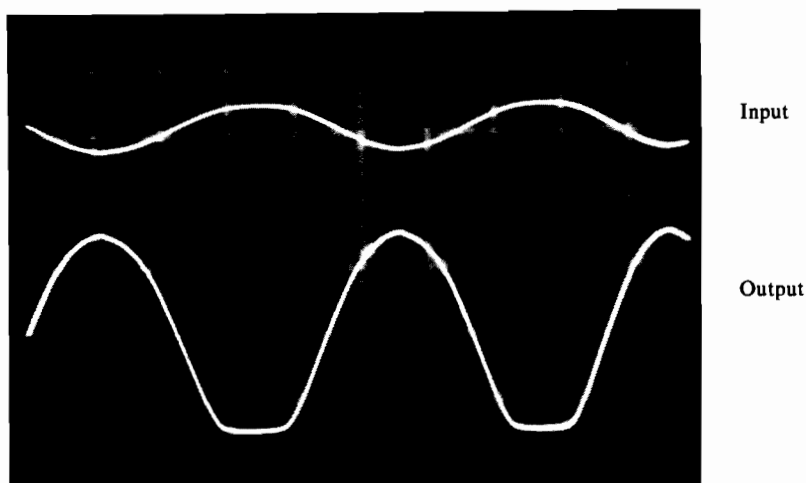

FIGURE 25-3
- Now reduce the input signal level to zero, and replace the 220- Ω resistor with a 100-k Ω resistor. Slowly increase the input signal level so that one peak clips off much earlier than the other, as shown in Figure 25-3.
3. If the negative peaks of the output waveform are clipped as shown in Figure 25-3, this condition represents